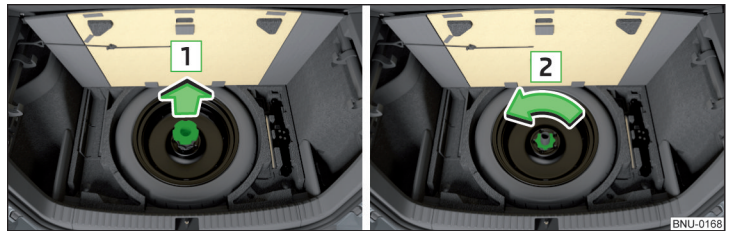

Fig. 318 Take out wheel
The spare wheel is located in a well under the floor covering in the luggage compartment and is fixed in place with a fastening screw » Fig. 318.
- › Remove the support base for the luggage floor in the direction of the arrow **1** and the locking screw in the direction of the arrow **2** » Fig. 318.
- › Tighten the locking screw in the opposite direction of arrow **2** until it stops » Fig. 318.